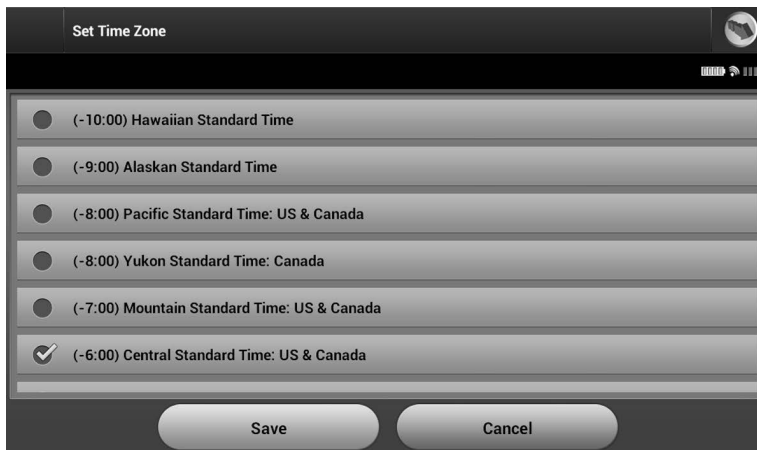

Figure 9: Time Zone selection screen (scrollable list)
1. Select Set Time Zone on the Programmer Settings screen. The time zone selection screen appears (Figure 9).